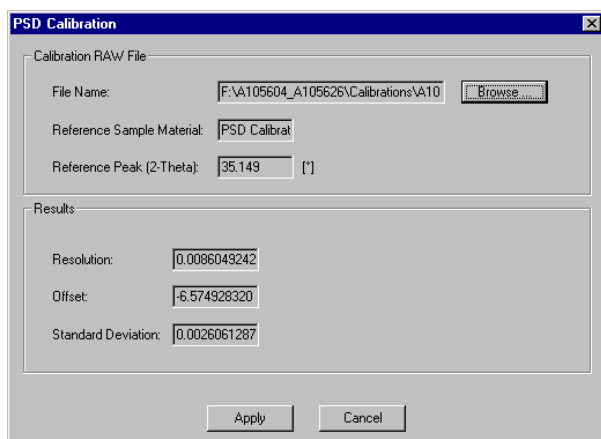

Figure 7.4 - Locate the RAW file
2. Use the **Browse** button to locate the RAW file saved during the calib.job measurement (see Figure 7.4).